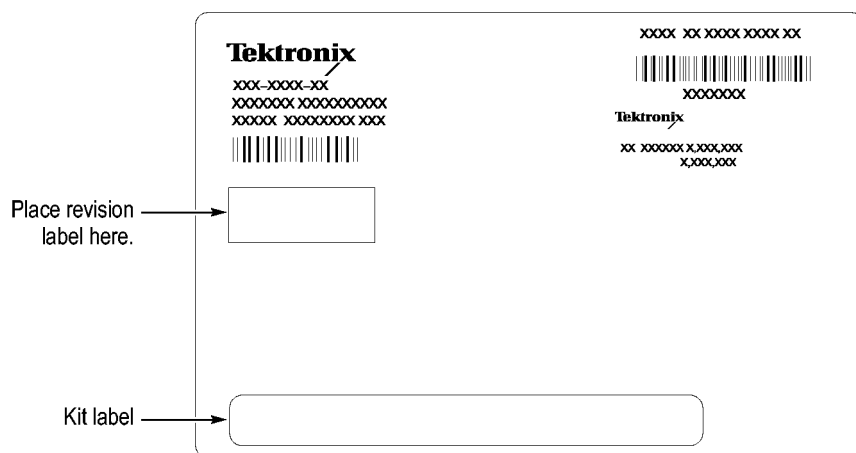

Figure 61: Revision and kit label locations
3. Locate the big label on the side of instrument modules and then attach the revision label and the TLA7KUP kit label as shown. (See Figure 61.)
- b. Locate the big label on the side of the TLA7016 Interface Module and attach the revision label and the TLA7KUP kit label as shown. (See Figure 61.)
- Locate the big label on the bottom of the portable mainframe and attach the revision label and the TLA7KUP kit label as shown. (See Figure 61.)